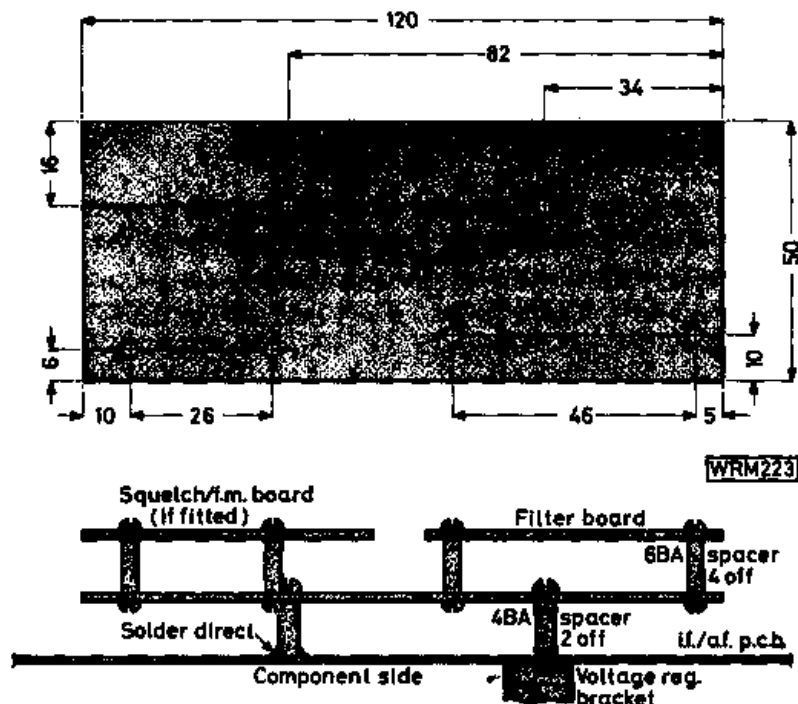

Fig. 2.3
i) Remove the screw that holds the voltage regulator heatsink bracket at the end near the regulator. Replace this with a 4BA screw from the component side of the board (you may have to enlarge the hole) and on the foil side of the board screw a 12mm threaded stand-off pillar. Next locate a point just below the a.f. i.c. (Q410). Here there is a large area of ground foil and a second stand-off should be soldered directly onto this, 48mm away from the first pillar. These two stand-offs now provide the support for the bracket as shown in Fig. 2.3.